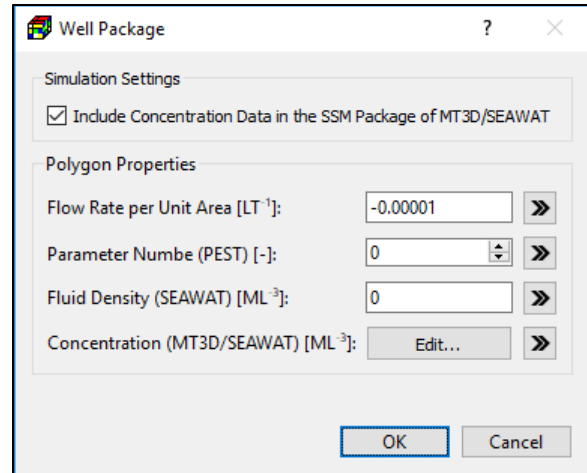

Figure 103. The Well Package dialog box for specifying polygon properties
4. **Polygon input method:** Figure 103 shows the dialog box for specify the following data are to a polygon. These data can then be assigned to model cells following the rules described in Section 3.4.2.3 and additional rules below.